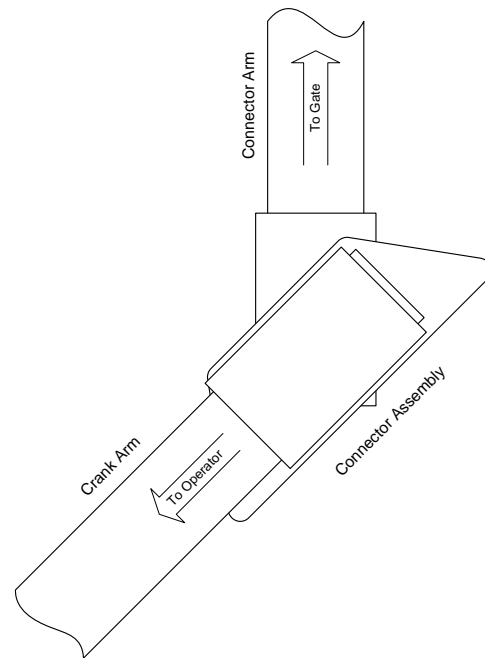

**Figure 38**
1. Pull the gate arm (figure 38) that is attached to the operator shaft away from the gate so that the knuckle joint is slightly "broken" (figure 39).
- Be sure that primary (AC) and backup (DC) power is removed or shut-off prior to placing the gate operator in manual operation.
- Unlock and remove the padlock on the operator crank arm (figure 38) and then pull the release pin.